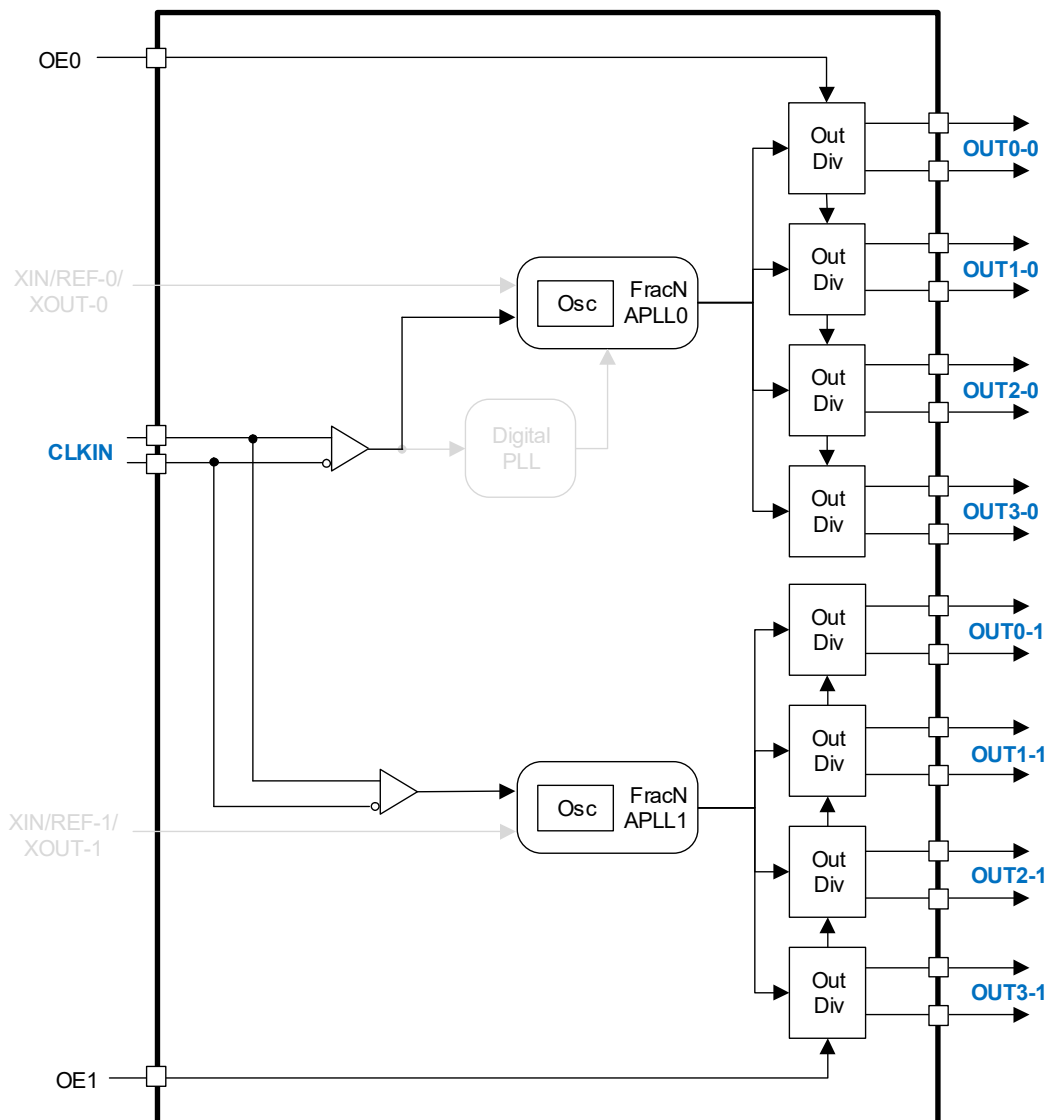

Figure 4. Clock Generator Mode with RC32508A when External Reference is Fed into CLKIN
| Figure 4. Clock Generator Mode with RC32508A when External Reference is Fed into CLKIN .....                | 7  |
- As shown in Figure 4, up to two frequency domains can be obtained in this configuration and up to eight differential or 16 LVCMOS outputs can be obtained.